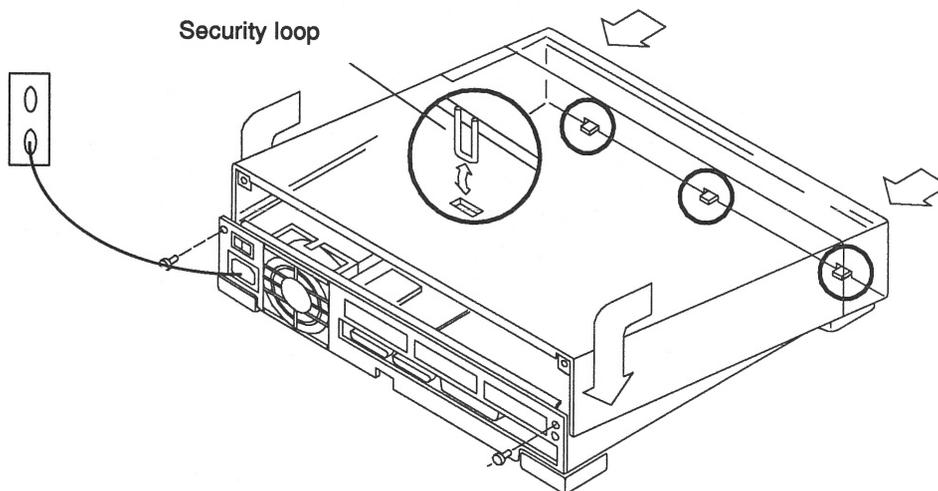

Figure 4-12 Replacing the SBus Expansion Subsystem Cover
1. **Hold the cover at an angle of approximately 30 degrees in relation to the system unit chassis (front end down, back end up).** Refer to Figure 4-12. Gently guide the plastic tabs on the front of the cover into the tab slots on the front of the chassis and continue to hold the cover.